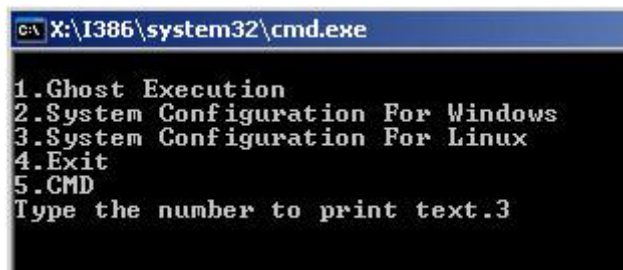

Figure C-23: System Configuration for Linux
Step 4: Build-up recovery partition. Press any key to boot from the recovery CD. It will take a while to launch the recovery tool. Please be patient. When the recovery tool setup menu appears, type <3> and press <Enter> (**Figure C-23**). The Symantec Ghost window appears and starts configuring the system to build-up a recovery partition. After completing the system configuration, press any key to reboot the system. Eject the recovery CD.